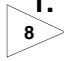

**FIG. 4-5**
**See Figure 4-5.** To tension the drive chains, unbolt and open the gearbox housing cover.